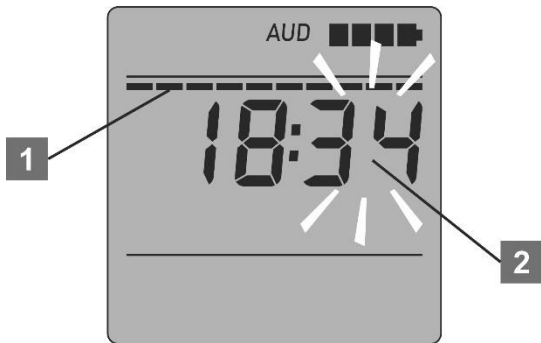

Figure 22 – LCD of the dosimeter
- alarm clock symbol (1) (if the alarm clock is on);
- alarm type symbol (2);
- battery status symbol (3);
- time (4);
- day (5);
- month (6);
- year (7).
To proceed to the submode of time and date correction, press and hold the THRESHOLD button until a stripe (1) “moving” across the instantaneous value indicator appears on the LCD, and the digits of minutes (2) start blinking (Figure 22).